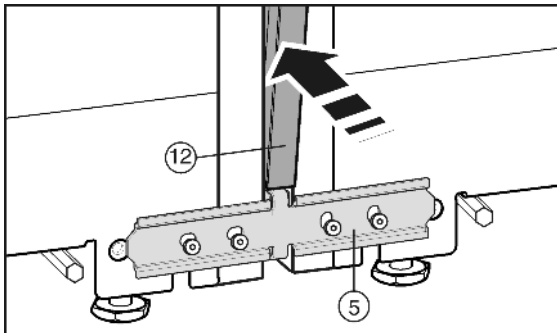

Fig. 9
Before fitting the cover strip Fig. 9 (12), press the two bars together along the whole length. That makes it easier to insert the strip into the gap. Use a soft cloth to press the strip into place to avoid making dents in the surface. Carefully press the strip into the gap, keeping it straight, to achieve an optimal joint.
- ▶ On the front, press the long cover strip Fig. 9 (12) into the vertical gap. Make sure the strip sits on top of the joining plate Fig. 9 (5).